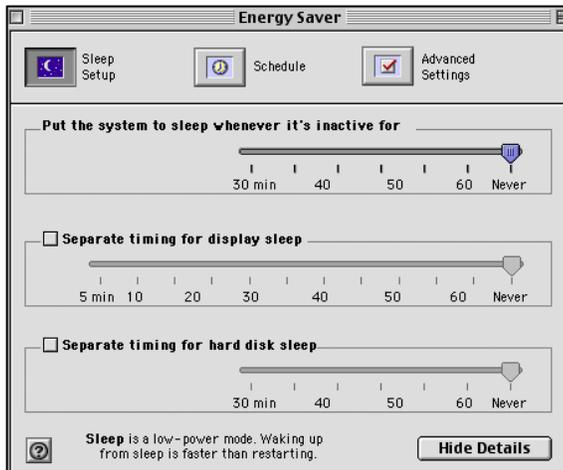

Figure 6. Energy Saver Settings
- b. Go to the Apple menu and select **Energy Saver**. All functions should be set to never (Figure 6).